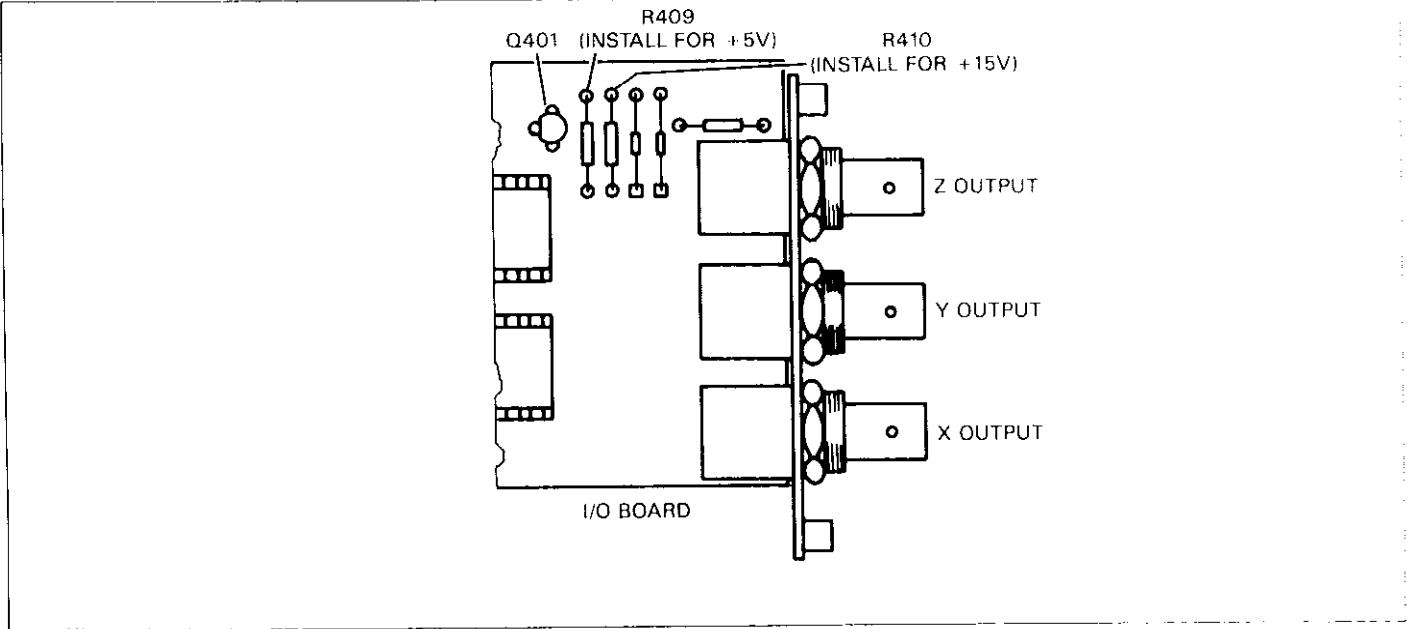

Figure 7-17. Z Output Blanking Level Programming
2. Install the correct pull-up resistor at location R409 (+5V) or R410 (+15V). Figure 7-17 shows the location of these two resistors on the I/O board, while Table 7-17 lists nominal, maximum, and minimum values. The nominal 910 Ω value for +5V is recommended for compatibility with TTL circuits.